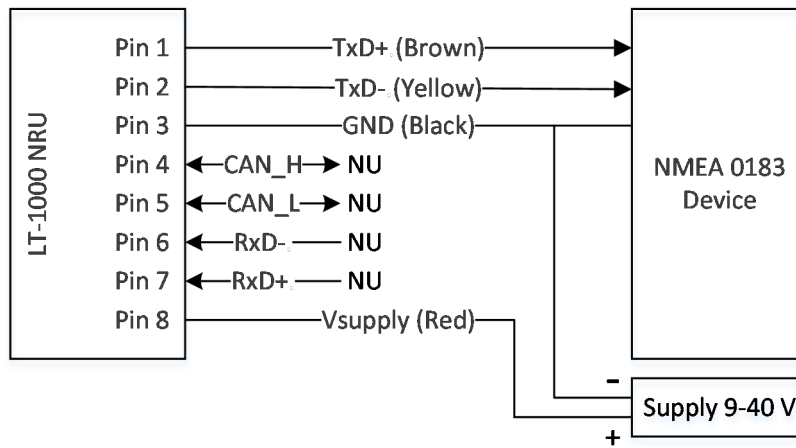
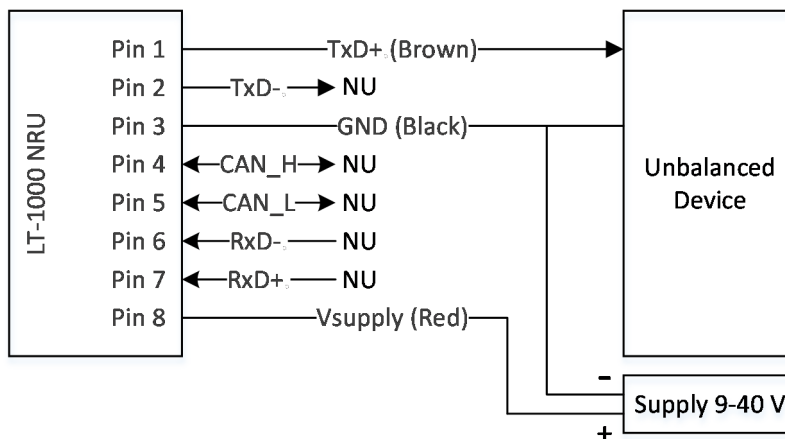

FIGURE 32: CONNECTING THE LT-1000 NRU TO A BALANCED NMEA 0183 DEVICE.
FIGURE 33: CONNECTING THE LT-1000 NRU TO AN UNBALANCED DEVICE.
**NOTE:** Make sure that the LT-1000 NRU is configured for the desired baud rate (4800 or 38400 baud), see *DIP-switch and LEDs* on page 21. Check that both the NMEA 0183 receive device and the LT-1000 NRU have the same GND reference, as illustrated in Figure 32 and Figure 33.
**IMPORTANT:** It is recommended to connect the LT-1000 NRU with a balanced NMEA 0183 connection (RS-422) as illustrated in Figure 32. An unbalanced connection (RS-232), as illustrated in Figure 33, is less robust and should only be considered when using a short communication cable.